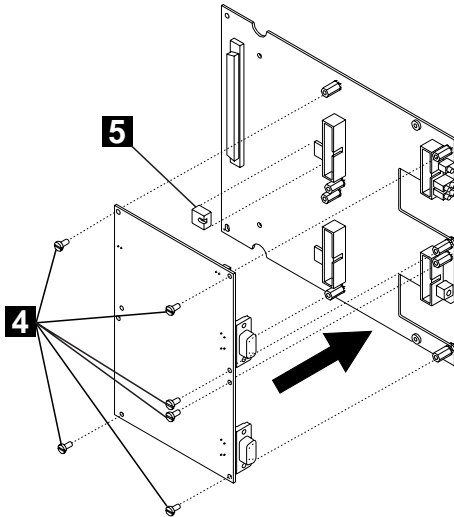

Figure 9. Attaching the I/O Card
- 5 Attach the I/O card to the motherboard using the six screws provided ( **4** in Figure 9).